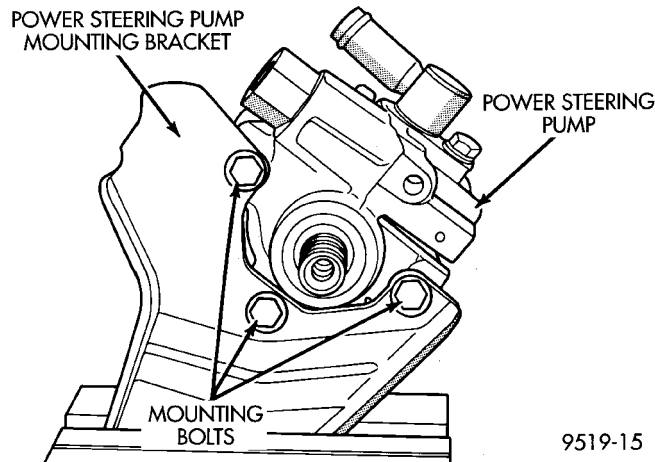

Fig. 40 Power Steering Pump Mounting Bolts
(3) Remove the 3 bolts attaching the power steering pump to the mounting bracket (Fig. 40).
(4) Remove power steering pump from mounting bracket.
(1) Install power steering pump on mounting bracket. Install the 3 power steering pump mounting bolts (Fig. 40). Torque the 3 mounting bolts to 54 N·m (40 ft. lbs.).